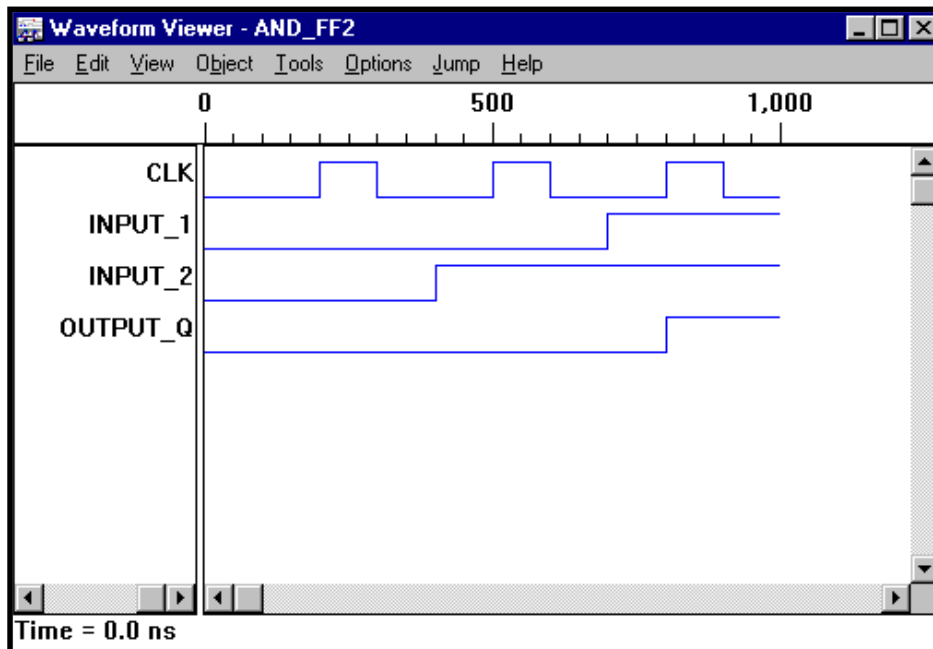

Figure 3-14. Waveform Viewer Window
4. Select **Tools** ⇒ **Waveform Viewer** after the simulator stops. The Waveform Viewer opens with the signals and their waveforms (Figure 3-14).